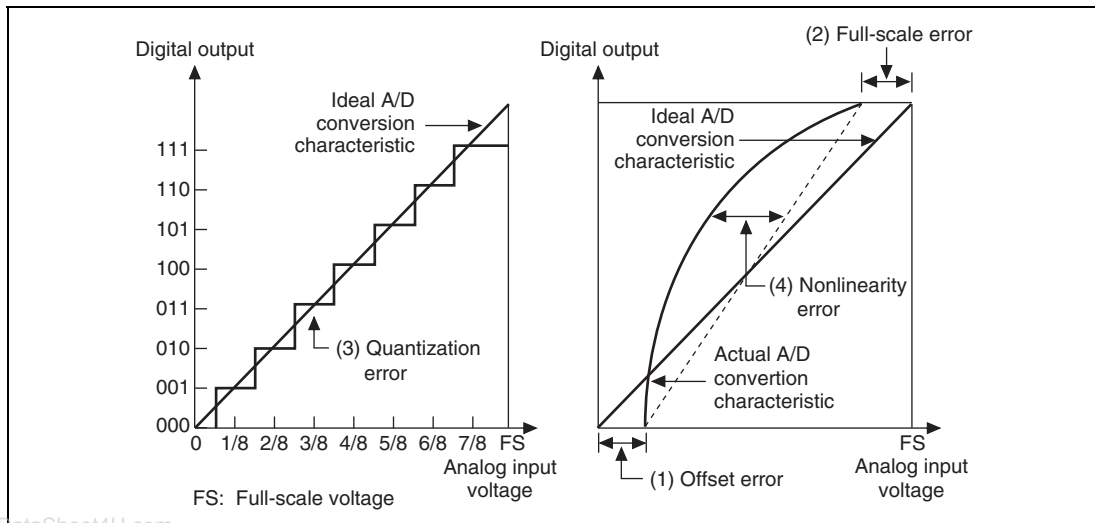

Figure 27.7 Definitions of A/D Conversion Accuracy
These four error quantities are explained below with reference to figure 27.7. In the figure, the 10 bits of the A/D converter have been simplified to 3 bits.
Offset error is the deviation between actual and ideal A/D conversion characteristics when the digital output value changes from the minimum (zero voltage) 000000000 (000 in the figure) to 000000001 (001 in the figure)(figure 27.7, item (1)). Full-scale error is the deviation between actual and ideal A/D conversion characteristics when the digital output value changes from the 111111110 (110 in the figure) to the maximum 111111111 (111 in the figure)(figure 27.7, item (2)). Quantization error is the intrinsic error of the A/D converter and is expressed as 1/2 LSB (figure 27.7, item (3)). Nonlinearity error is the deviation between actual and ideal A/D conversion characteristics between zero voltage and full-scale voltage (figure 27.7, item (4)). Note that it does not include offset, full-scale, or quantization error.